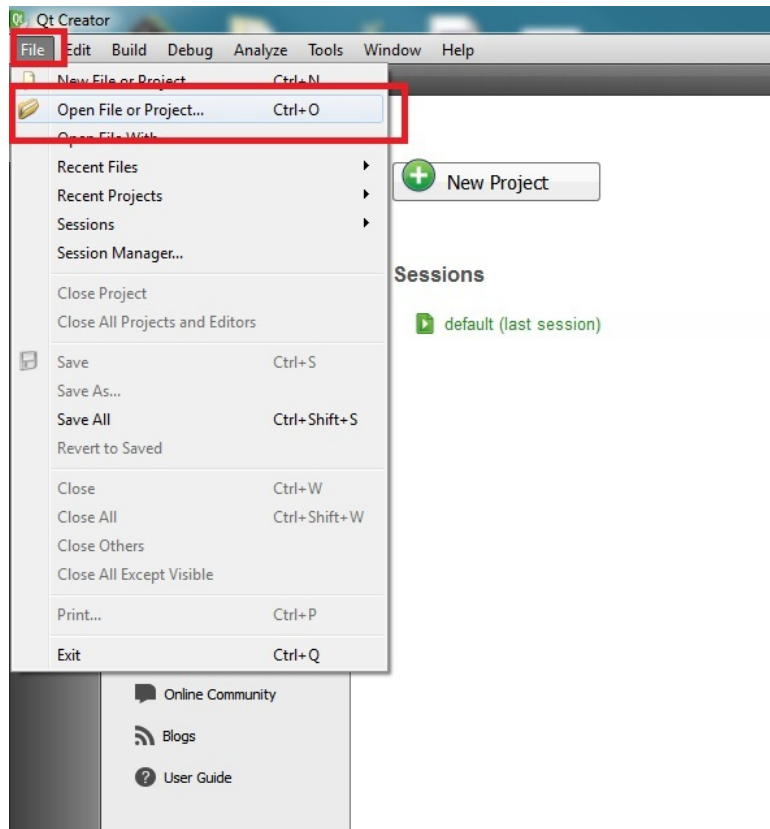

Figure 4-33. Opening the DLP 3D Printer Reference Design Project In Qt Creator
1. Open the Qt Creator IDE and click the **File** menu option in the upper left hand corner. Click **Open File or Project...** shown in Figure 4-33.